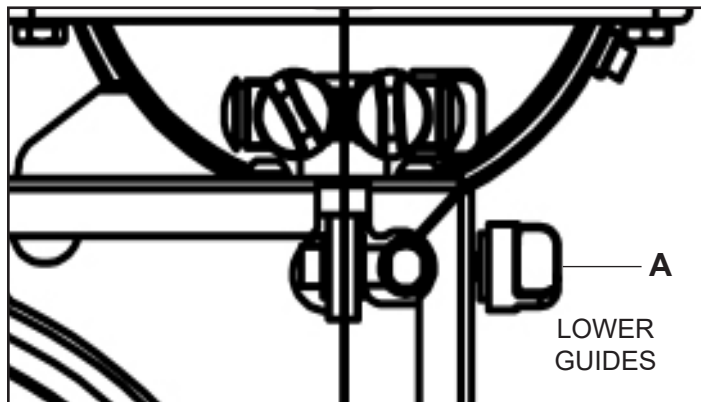

FIGURE 21
4. Adjust the rear bearing guide to be just clear of the back of the saw blade. Release the guide's Locking Handle (#124) (FIG. 21, A) and move the rear guide towards the blade with the locking by pushing the end of the Rear Guide Support Shaft (#130). Tighten the handle when done.